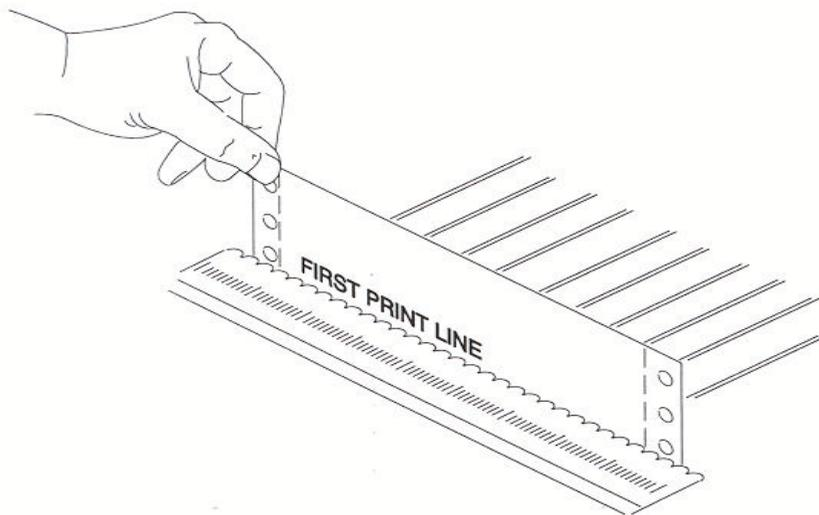

Figure 3-9: Set First Print Line
1. To place the printer in Top-of-Form Adjust Mode, open the Keypad Door and press the Adjust Form key. The form will advance until the bottom of the first print line is positioned just above the tear off bar for viewing (Figure 3-9). (For units equipped with cut sheet option, open the Top Access Cover and use the metal tear edge just above the top rollers.)
2. Use the Value ▲ and Value ▼ keys to move the paper up or down to the position desired for first line of type. The line directly above the tear bar will be the first print line (Figure 3-9).